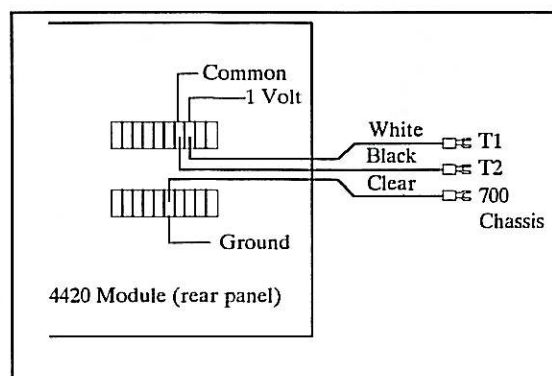

Fig. 8.2 POX External Interface Cable Connections
- Connect one end of the white lead to the 1 volt output on the rear of the 4420 module and the other end to T1 on the 700 terminal strip (see Fig. 8.2).